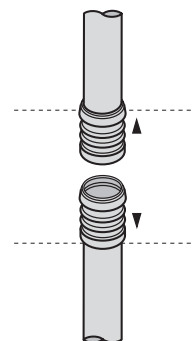

Fig.5b Sliding on the Slip Couplers
**Step 4** – Slide Slip Couplers over spigot ends of the existing pipework (Fig.5b)